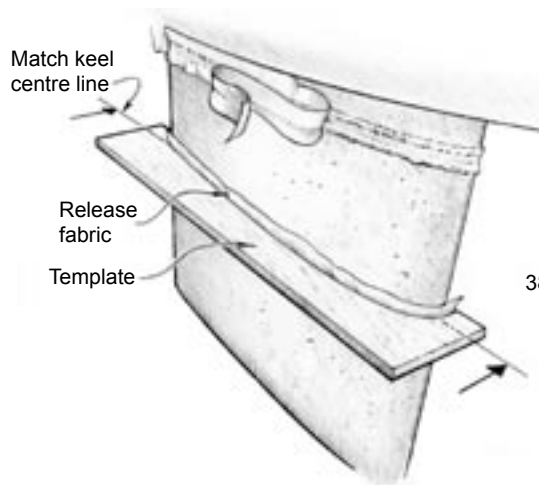

Figure 8-6 Make an impression of each template profile in the epoxy mixture. Sand the excess mixture flush with the profile after the mixture has cured.
6. Push the templates into the soft epoxy mix to make an impression of the exact keel profile at each template location. To gauge the depth of the impression (height of the profile), push the template into the mix until the centrelines marked on the template match the centrelines marked on the leading and trailing edges of the keel (*Figure 8-6*). If an area of the ridge is too low to contact the template when it is properly aligned, squeeze the material under the release fabric upward so it comes in contact with the template. Carefully remove the template without disturbing the profile impression, leave the release fabric in place and allow the epoxy to thoroughly cure.